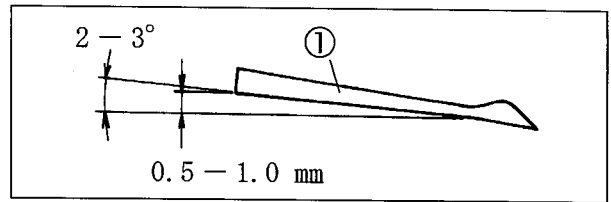

Fig. 55
Adjust rear of the lower looper to  $0.5-1.0$  mm above the tip of the lower looper with loosening the screw ②. (Fig. 55)